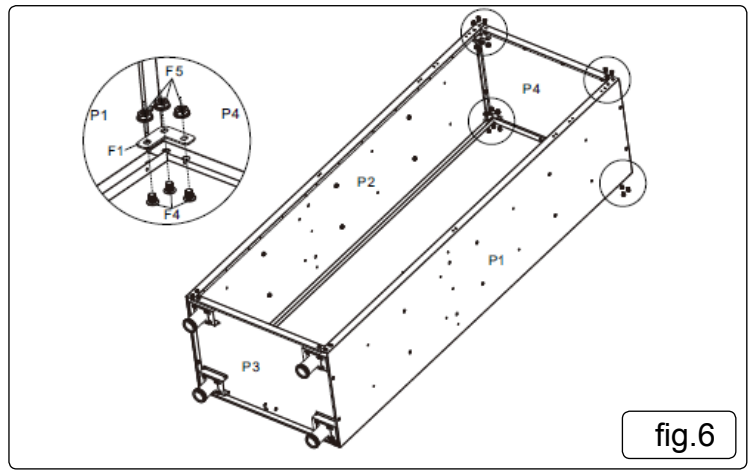

fig.6
5.5. Attach top of cabinet using angle brackets as per fig.6.